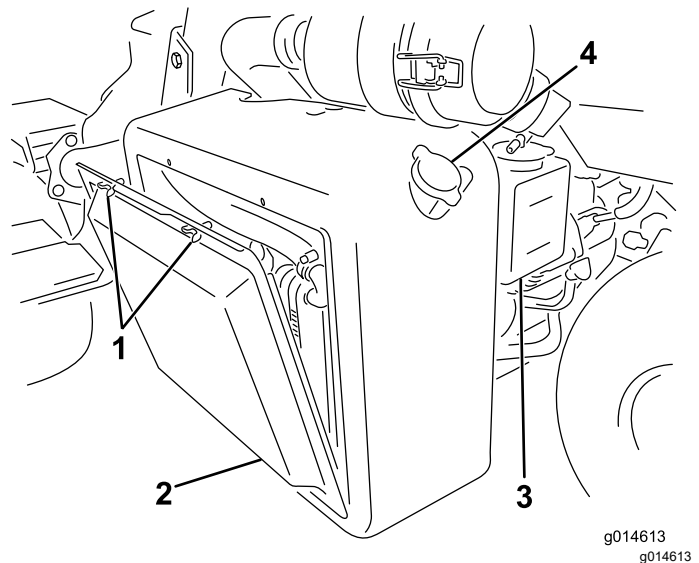
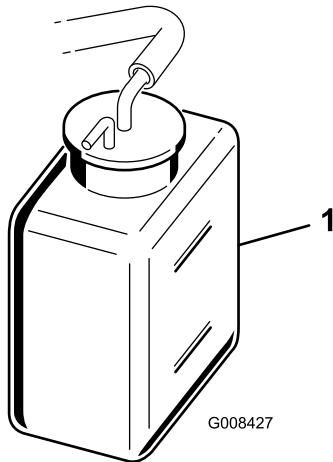

Figure 47
Figure 48
1. Remove the radiator screen (Figure 47).
2. Check the coolant level (Figure 47 and Figure 48).